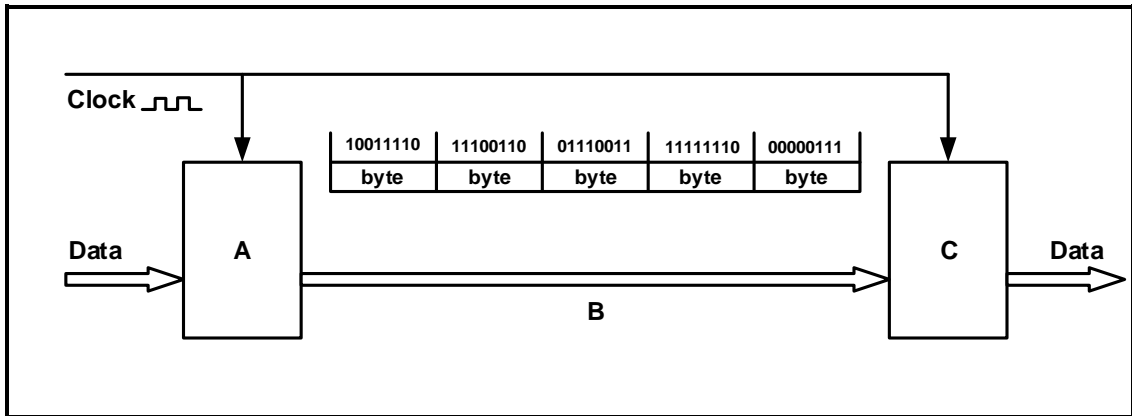

FIGURE 5.9: BLOCK DIAGRAM OF SYNCHRONOUS COMMUNICATION
5.9 Refer to FIGURE 5.9 below and answer the questions that follow.